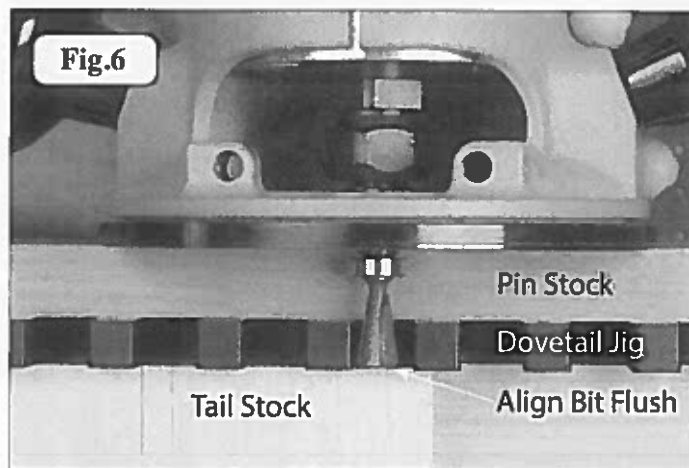

Fig.6
E. Place the dovetail router bit with bearing guide into your router and secure router bit collet tightly. Adjust the base of your router for depth of cut by adding the thickness of the pin stock piece plus $1/2"$ for the thickness of the dovetail jig. If desired, add an additional $1/32"$ or more for sanding the edge perfectly flush after assembly of joint. Another way of setting your bit height is to place your pin side stock on top of the jig. Place the router with bit on top of stock, with bit hanging over edge between the fingers of the jig. Now lower the router bit until it touches the top of the tail stock and then secure router bit in place. See Fig. 6